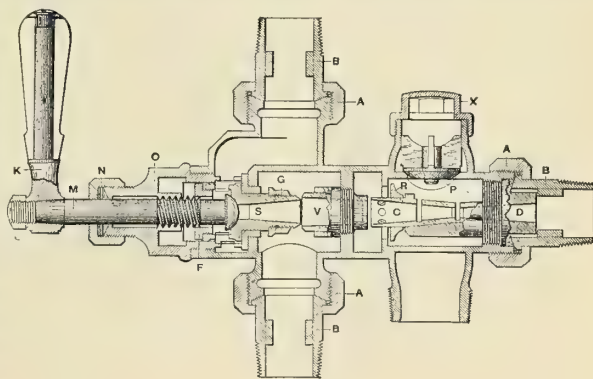

FIG. 83.
**Injector**—A device for forcing the feed water into a steam boiler. As shown in Fig. 83, it consists essentially of a nozzle, *S*, connected with the upper pipe, *B*, leading steam from the boiler. When the steam is turned on by means of the handle *K*, and attached valve-stem and valve, it escapes in a jet which enters the slightly tapered passage *VC*. The air in the space around and between these two orifices is caught and drawn along with the jet, thus causing a defect of pressure at this point. This space is connected through the lower pipe, *B*, to the water reservoir, and when the loss of pressure is sufficient, the water rises the same as in the case of a pump. The water and steam are thus brought into contact, and pass on together into the combining and delivery tube, *CD*. The steam is here condensed, and the resultant jet of water attains a very high velocity. A little farther on, when this is reduced to the relatively low velocity of the water in the feed pipe, the pressure developed is sufficient to overcome the boiler pressure, to open the check valve, and to force the water into the boiler. While this result may seem puzzling, it may perhaps be an aid to a clearer understanding if we remember that it is the *energy* of the steam which is really the motive power. This is transformed largely into motion in the combined jet, and this, when arrested, gives the pressure as stated before. In a steam pump a steam piston is provided much larger than the water plunger in order to give a force sufficient to overcome the resistance in the feed pipe and at the check valve. So in the injector, in a somewhat similar manner, the energy of the steam in a relatively large pipe is concentrated on a small jet of water, giving it the high velocity and later the pressure as described.
An injector of the type shown in Fig. 83 is known as an *automatic injector*. This signifies that once the injector is adjusted and working, should the jet of water become broken by a jar or other accidental circumstance,